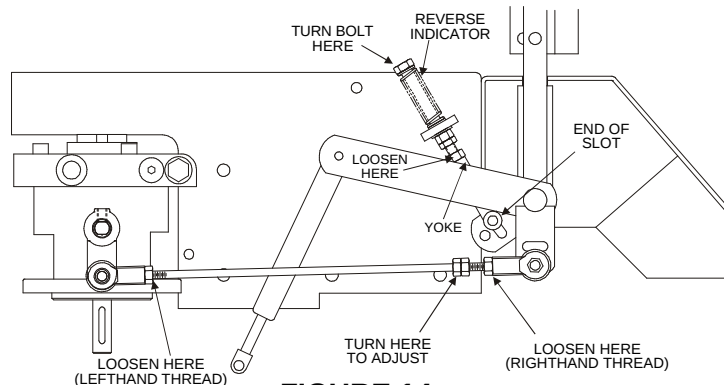

FIGURE 14
- Begin with either the left or right motion control lever. Move lever to the neutral position and pull lever back until the clevis pin (on arm below pivot shaft) contacts the end of the slot (just beginning to put pressure on spring), See Figure 14.
- Loosen lock nuts from the ball joints at each end of the RH pump control linkage (See Figure 14).
- h) Bring the RH motion control lever into the neutral position. Adjust RH pump control rod length by rotating the double nuts on the rod in the appropriate direction until the wheels slightly creep in reverse. (See Figure 14). Move the motion control lever to the reverse position and while applying slight pressure to the lever, allow the reverse indicator spring to bring the levers back to neutral. The wheel must stop turning or slightly creep in reverse.